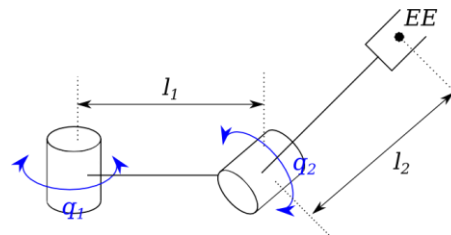

Figure 4
- c) Give the inverse kinematics equations of the manipulator below (Fig. 4), if the end-effector's position and orientation are known. [8]